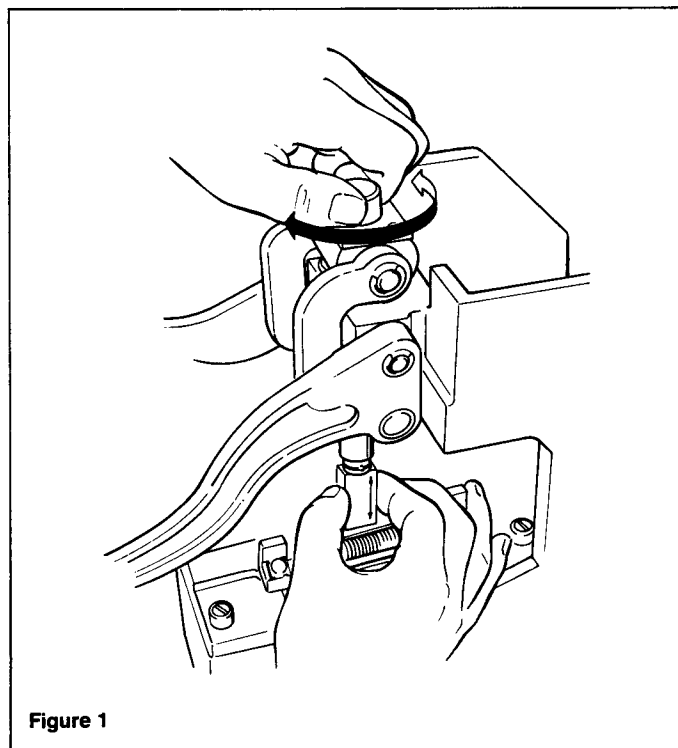

Figure 1
- Position the Connector End Guides for either the plug or socket connector. (Figure 1) Lift and slide each end guide to the end and rotate each 180° if necessary.
- Adjust the Connector End Guides for the desired number of contacts by lifting and sliding each end guide, aligning the end guide pins with the appropriate number on the label scale (Figure 1).